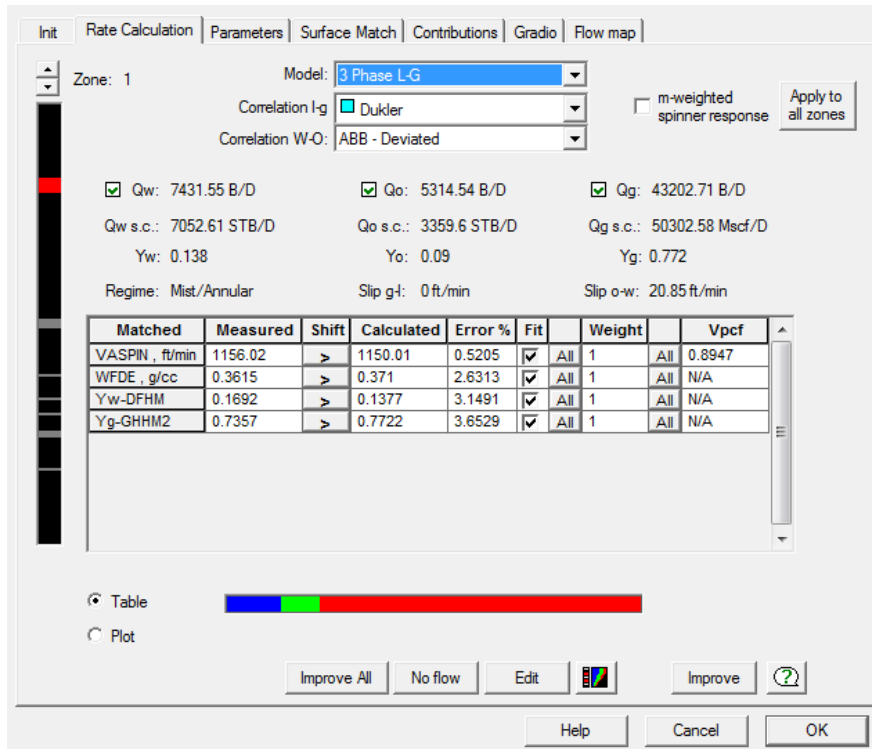

Fig. B03.3 • 'Zone Rates' Calculation; top zone
- Accept the current selection. Go to the 'Rate Calculation' tab, Fig. B03.3.